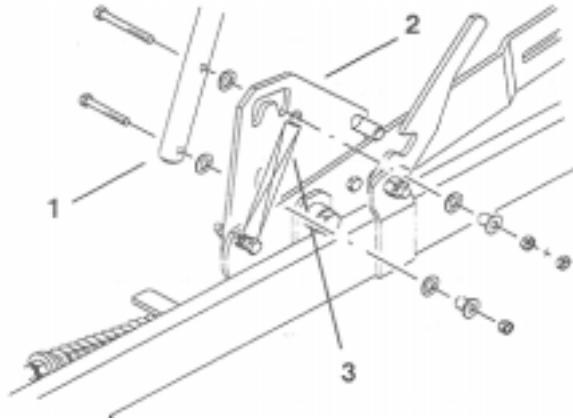

Figure 2
1. Install the lower handle on the inside of the handle plate using a cap screw (5/16 x 2-1/4 inch), another cap screw (5/16 x 2-3/4 inch), 4 washers (1/2 inch), 2 spacers, a locknut (5/16 inch), and a jam nut (5/16 inch). Refer to Figure 2.
3. Hook the spring onto the end of the top cap screw (Fig. 2).